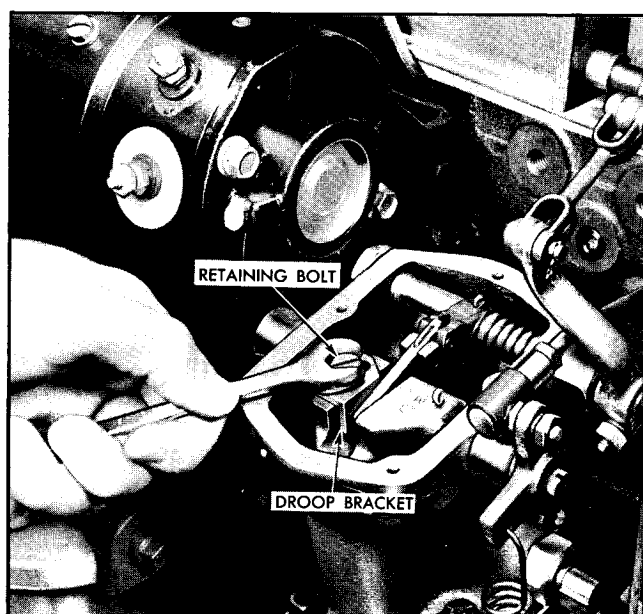

Fig. 4 - Adjusting Droop Bracket
4. Refer to Fig. 4 and loosen droop adjusting bolt. Move droop bracket so that bolt is midway between ends of slot in bracket. Tighten bolt.